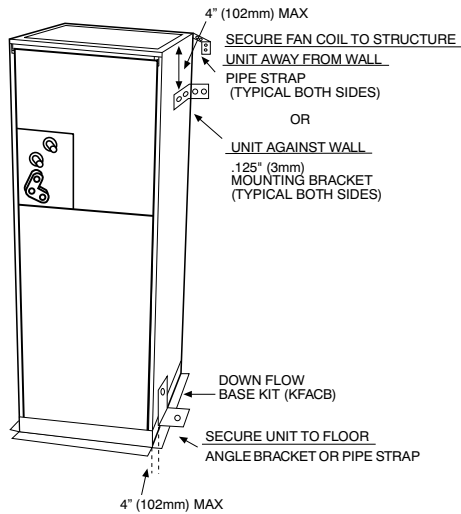

Fig. 8 – Mobile Home or Manufactured Housing Applications
- b. If fan coil is against wall, secure fan coil to wall stud using 1/8-in (3 mm) thick right-angle brackets. Attach brackets to fan coil using no. 10 self-tapping screws and to wall stud using 5/16-in. lag screws. (See Fig. 8.)